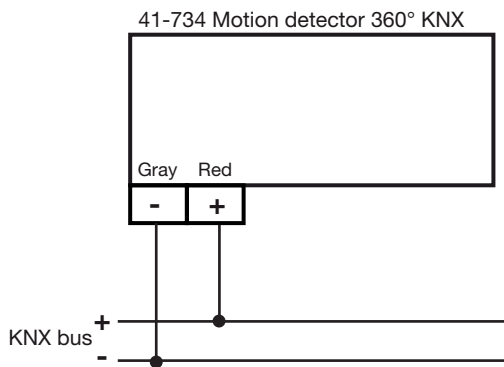

Fig. 6
- 1: Activate the programming button on the bottom of the detector. **Fig. 6.**
- 2: Activate the programming button located under the cover of the detector part. **Fig. 6.**